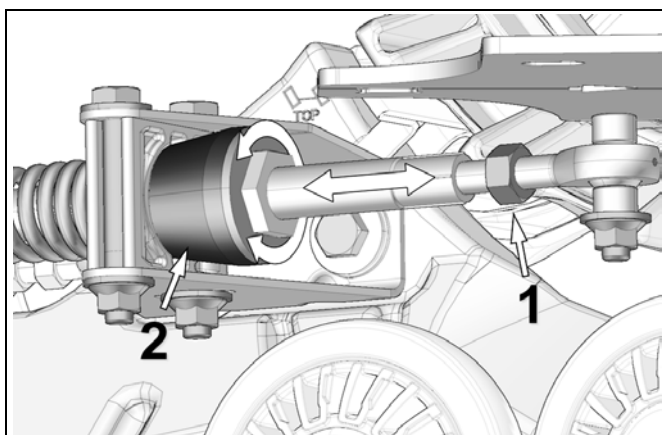

Figure 11
- Loosen jam nut (1). Rotate the stabilizing arm to adjust length of rod end so that no pressure is applied to the rubber cone (2). Refer to Figure 11.